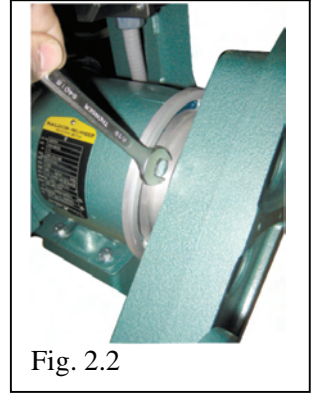

Fig. 2.2
2. Locate the two 9/16 inch hex nuts and studs that secure the motor adapter (P/N 908) to the electric motor. The machine can be adjusted to positions between vertical to horizontal by loosening these nuts, pivoting the machine and securing the nuts. See Figure 2.2